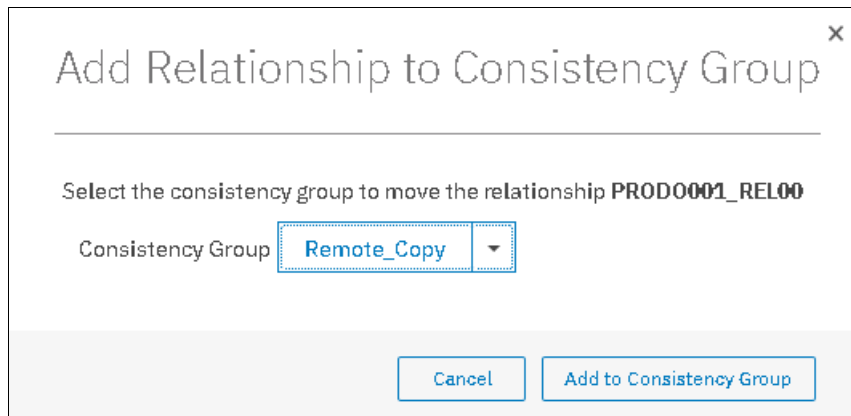

Figure 10-104 Adding a relationship to a Consistency Group
- In the Add Relationship to Consistency Group window, select the Consistency Group by using the drop-down list, as shown in Figure 10-104. Click **Add to Consistency Group** to confirm your changes.